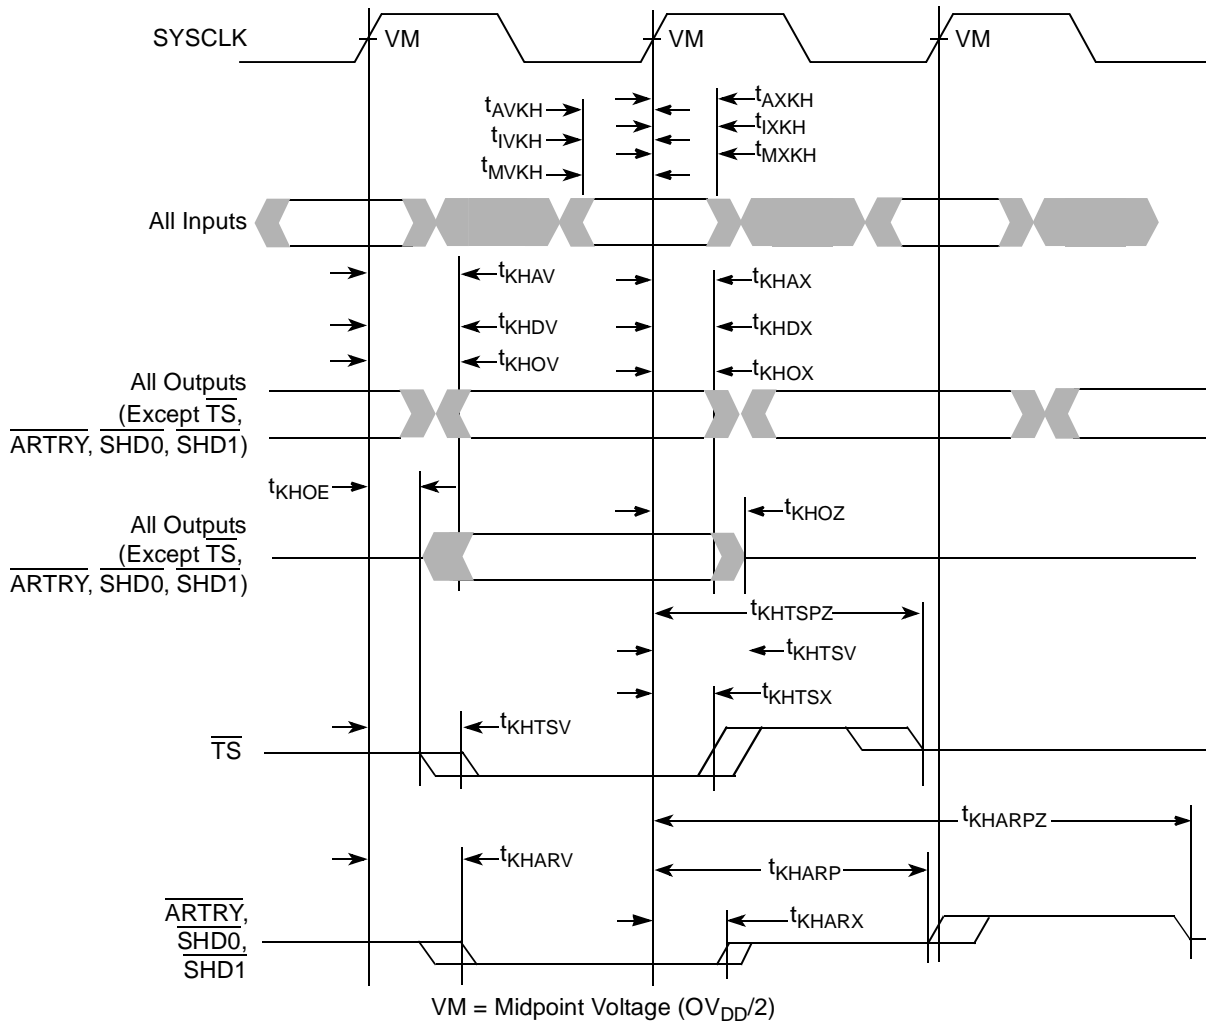

Figure 6. Input/Output Timing Diagram
Table 8 provides the clock AC timing specifications as defined in Figure 6 and represents the tested operating frequencies of the devices. The maximum system bus frequency,  $f_{SYSCLK}$ , given in Table 8 is considered a practical maximum in a typical single-processor system. The actual maximum SYSCLK frequency for any application of the MPC7457 will be a function of the AC timings of the MPC7457, the AC timings for the system controller, bus loading, printed-circuit board topology, trace lengths, and so forth, and may be less than the value given in Table 8. For information regarding the use of spread spectrum clock generators, see Section 9.1.3, “System Bus Clock (SYSCLK) and Spread Spectrum Sources.” PLL configuration and bus-to-core multiplier information is found in Section 9.1.1, “Core Clocks and PLL Configuration.”
2. The symbology used for timing specifications herein follows the pattern of  $t_{(\text{signal})(\text{state})(\text{reference})(\text{state})}$  for inputs and  $t_{(\text{reference})(\text{state})(\text{signal})(\text{state})}$  for outputs. For example,  $t_{\text{VKH}}$  symbolizes the time input signals (I) reach the valid state (V) relative to the SYSCLK reference (K) going to the high (H) state or input setup time. And  $t_{\text{KHOV}}$  symbolizes the time from SYSCLK(K) going high (H) until outputs (O) are valid (V) or output valid time. Input hold time can be read as the time that the input signal (I) went invalid (X) with respect to the rising clock edge (KH) (note the position of the reference and its state for inputs) and output hold time can be read as the time from the rising edge (KH) until the output went invalid (OX).
4. According to the bus protocol,  $\overline{\text{TS}}$  is driven only by the currently active bus master. It is asserted low then precharged high before returning to high impedance as shown in Figure 6. The nominal precharge width for  $\overline{\text{TS}}$  is  $0.5 \times t_{\text{SYSCLK}}$ ; that is, less than the minimum  $t_{\text{SYSCLK}}$  period, to ensure that another master asserting  $\overline{\text{TS}}$  on the following clock will not contend with the precharge. Output valid and output hold timing is tested for the signal asserted. Output valid time is tested for precharge. The high-impedance behavior is guaranteed by design.
6. According to the bus protocol,  $\overline{\text{ARTRY}}$  can be driven by multiple bus masters through the clock period immediately following AACK. Bus contention is not an issue because any master asserting  $\overline{\text{ARTRY}}$  will be driving it low. Any master asserting it low in the first clock following AACK will then go to high impedance for one clock before precharging it high during the second cycle after the assertion of AACK. The nominal precharge width for  $\overline{\text{ARTRY}}$  is  $1.0 t_{\text{SYSCLK}}$ ; that is, it should be high impedance as shown in Figure 6 before the first opportunity for another master to assert  $\overline{\text{ARTRY}}$ . Output valid and output hold timing is tested for the signal asserted. The high-impedance behavior is guaranteed by design.
Figure 6 provides the input/output timing diagram for the MPC7457.